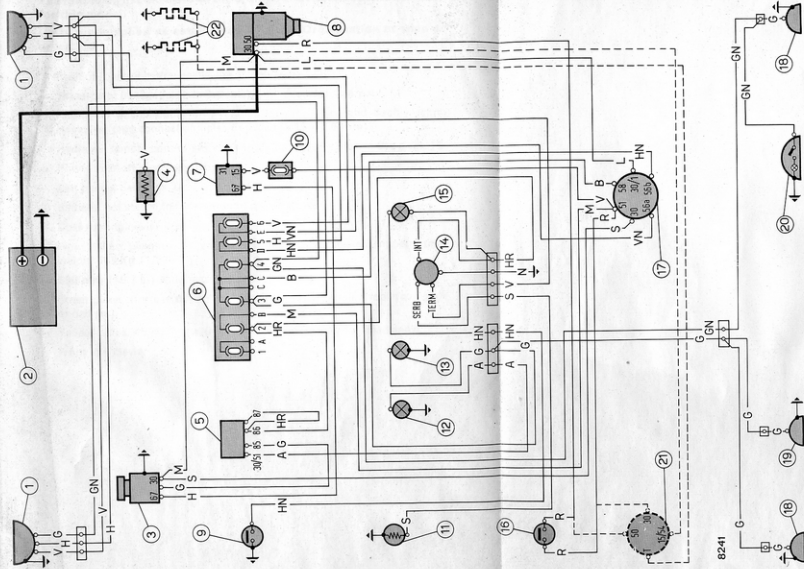

Fig. 14 - Wiring Diagram (12 Volts)
- Cold starting device (two heater plugs on inlet pipe. See Fig. 14).